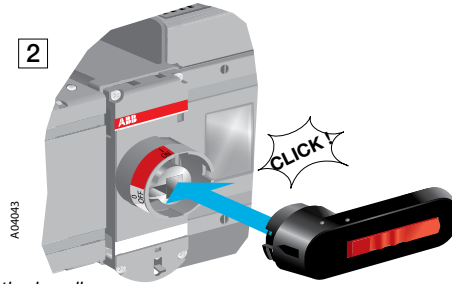

Figure 6.6 Attaching the handle
- Attach the handle by pressing it to the switch panel until it clicks into place, see Figure 6.6. You can attach the handle in both positions (I or 0).